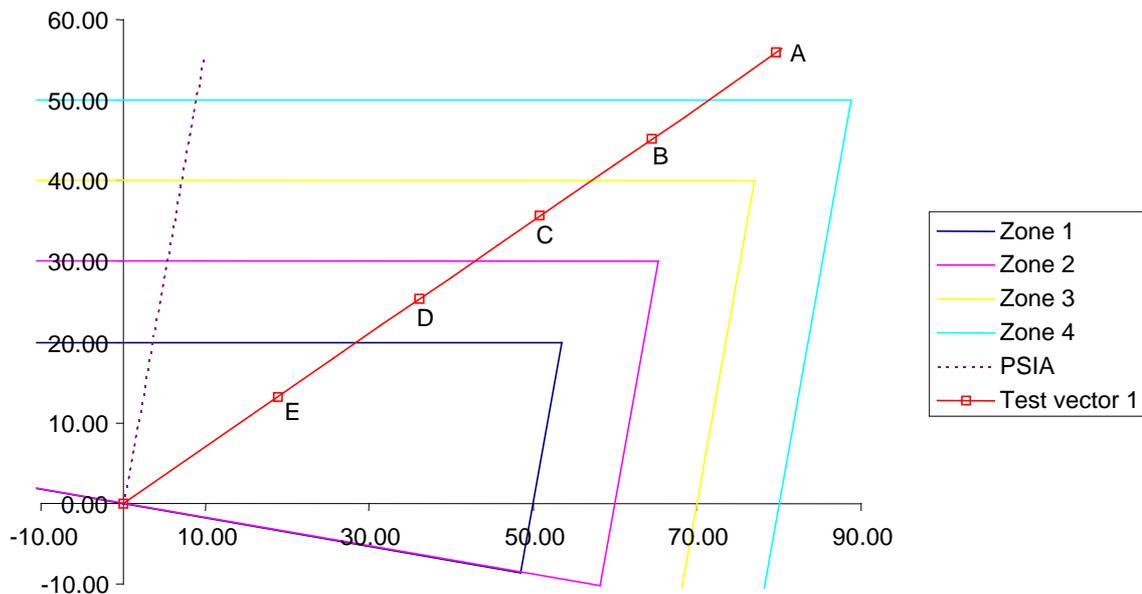

Figure 8. Test points for timing tests
To test the timing of each zone of operation, test points can be picked in each zone of operation as shown in figure 8.
- Type in a new voltage value on the DVS3 that should cause the relay to trip in the outer zone (point B, zone 4 on figure 8). The DVS3 timer will display the zone 4 trip time.